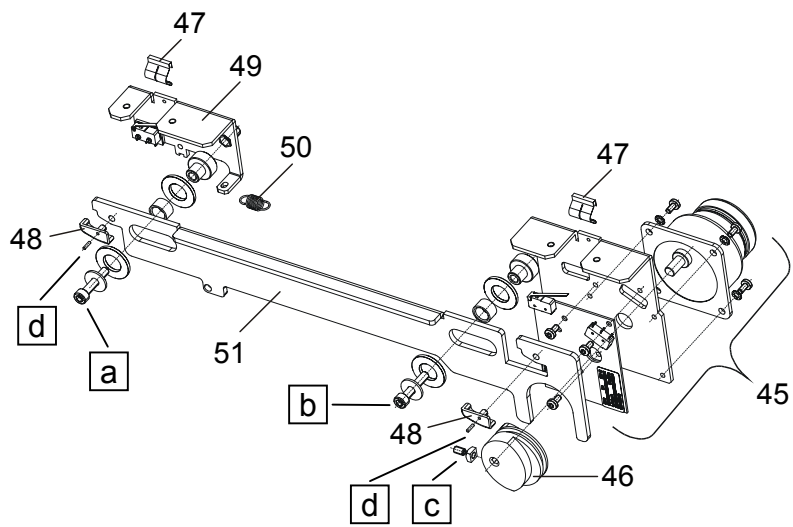

Fig. 11
- Suspend the tension spring (pg. 80, Fig. 11, item 50) on one side.
- Unscrew the fastening screw (pg. 80, Fig. 11, a).
- Use the hexagon pin driver to turn the eccentric disc (pg. 80, Fig. 11, item 46) until the hexagon socket points upwards.
- Unscrew the fastening screw (pg. 80, Fig. 11, b).
- Loosen the hexagon socket screw (pg. 80, Fig. 11, c) down on the eccentric disc (pg. 80, Fig. 11, item 46).
- Remove the eccentric disc (pg. 80, Fig. 11, item 46) from the motor axis.
- Unscrew the two fastening screws (pg. 80, Fig. 11, a and b) and remove the connecting rod (pg. 80, Fig. 11, item 51).
- Push the steel pin (pg. 80, Fig. 11, d) from behind out of the sliding block (pg. 80, Fig. 11, item 48) using a suitable tool.
- Remove the sliding block (pg. 80, Fig. 11, item 48).
- Carefully drive the steel pin (pg. pg. 80, Fig. 11, d) from the front into the borehole of the sliding block (pg. 80, Fig. 11, item 48) with a hammer.